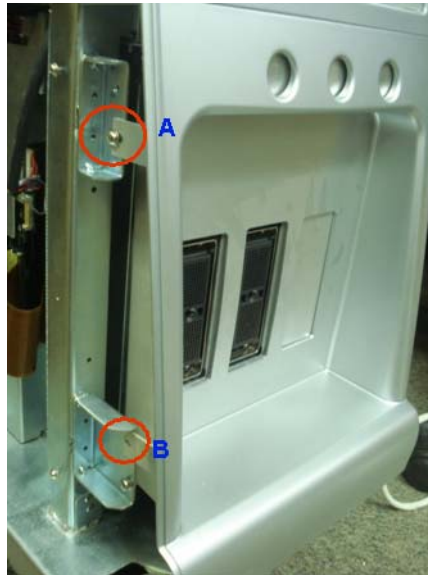

Figure 8-28 Removing side screws of front cover
- 3) Remove the two screws (A,B) LH- side of the system. Refer Figure 8-28 on page 8-30